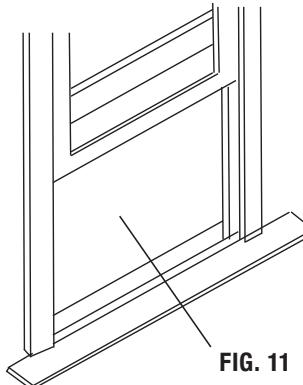

FIG. 11
1. Open window and mark center of window sill. (Fig. 11)